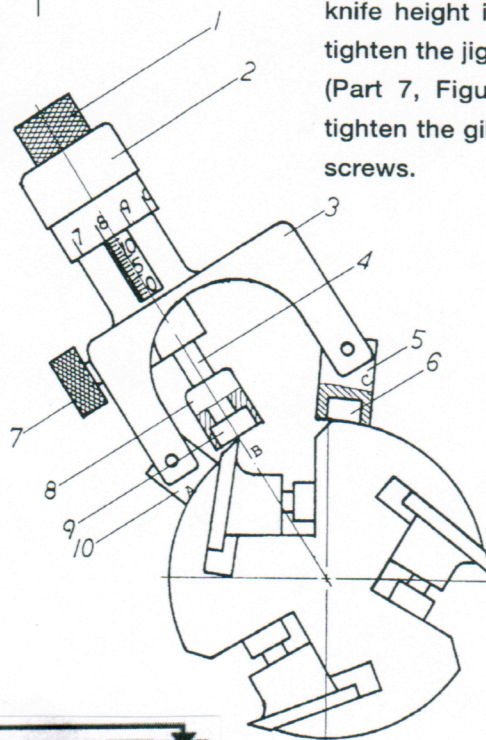

Fig.2
1. Refer to Figure 2. Set the jigs on the cutter head as in Figure 2. Read the jigs red scale and the white scale. Record these two numbers.
2. To reset the knives back to their original location, or to set new knives, use the following procedure. With the gibs loosened and the knife setting in the cutter head, set one jig on each end of the knife, positioned as in Figure 2. Make sure the jigs are set at the two numbers recorded in Step #1. Tighten the jig lock screw (Part 7, Figure 2), then tighten the gib/knife lock screws.
2. With the gibs/blade set screws loosened, set one jig on each end of the knife to be set, positioned as in Figure 2. Make sure that both jigs are set to the numbers recorded from the indexing step. Turning the barrel of the jig (Part 2, Figure 2) clockwise raises the knife, counter clockwise lowers the knife. Each full revolution of the jig barrel will move the knife 0.060". When the correct
knife height is obtained, tighten the jig lock screw (Part 7, Figure 2), then tighten the gib/knife lock screws.